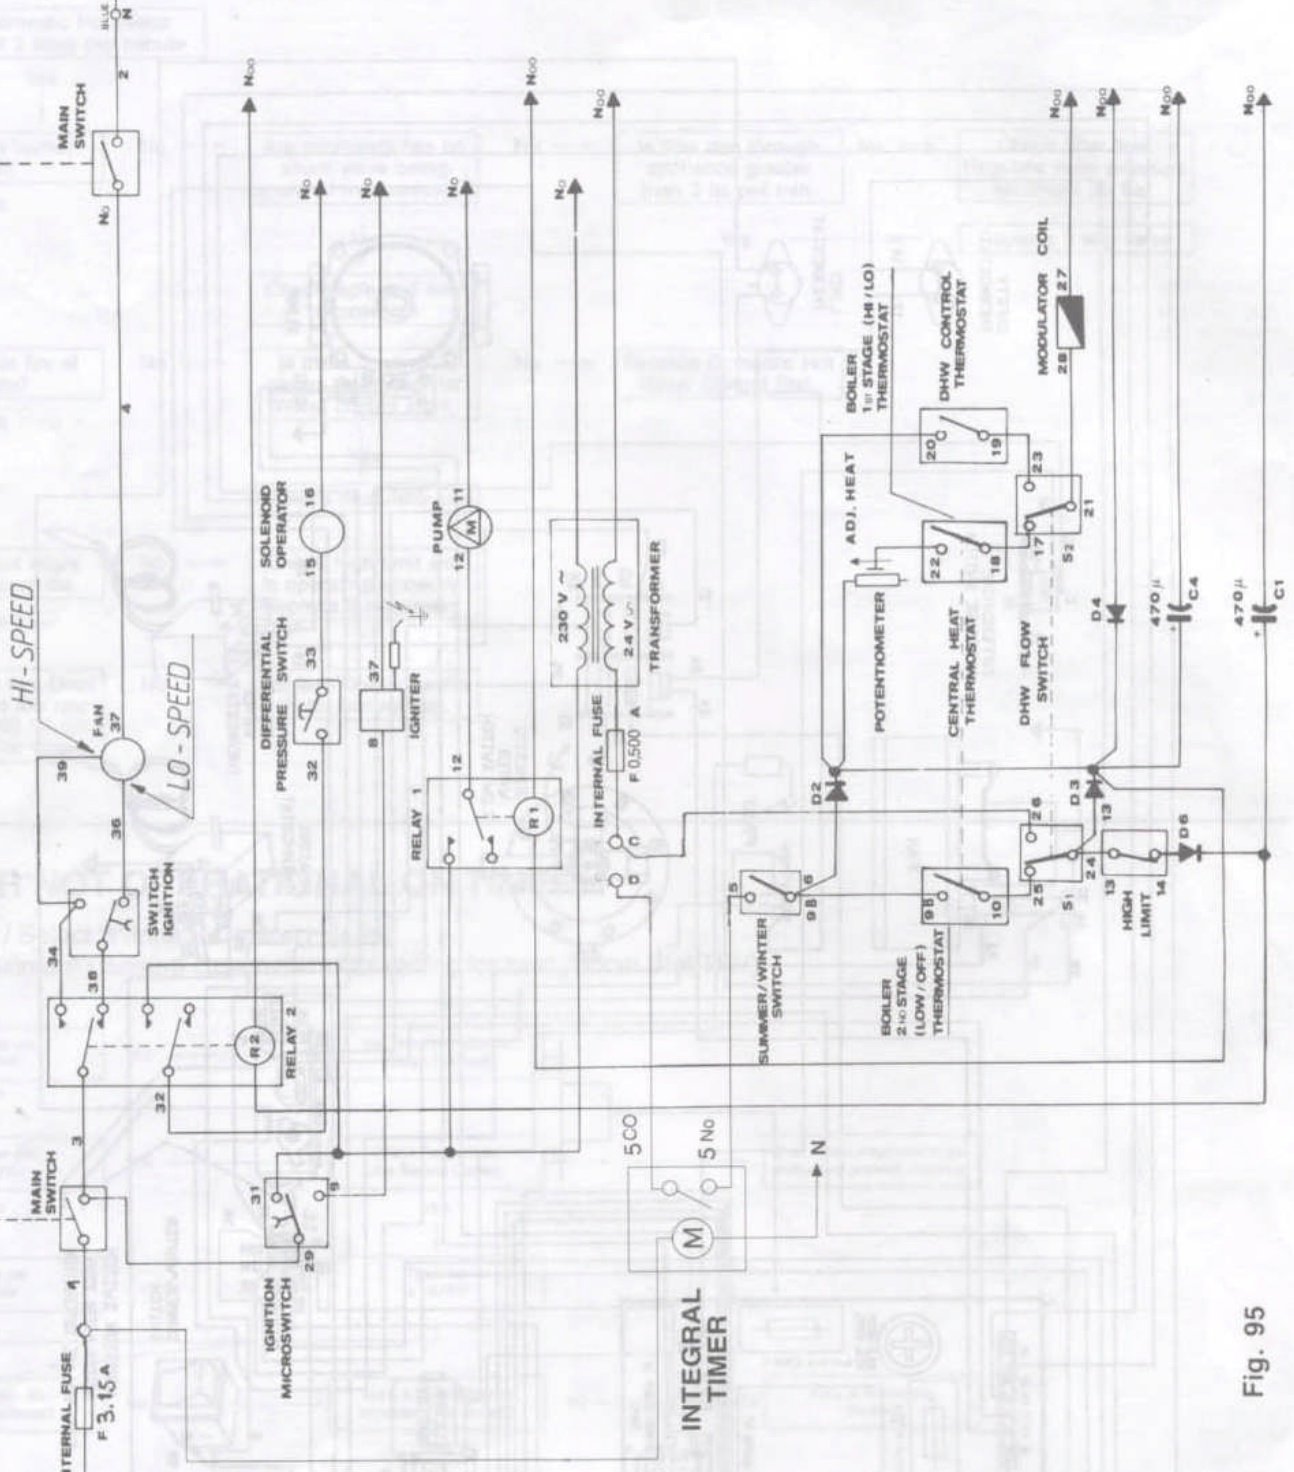

Fig. 95
7.26.6 Detach the wires that are connected to this. Remember that they must subsequently be reconnected to the same terminals (Fig. 95).